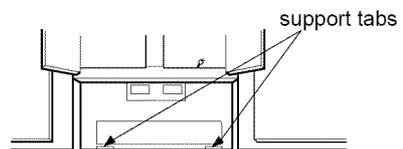
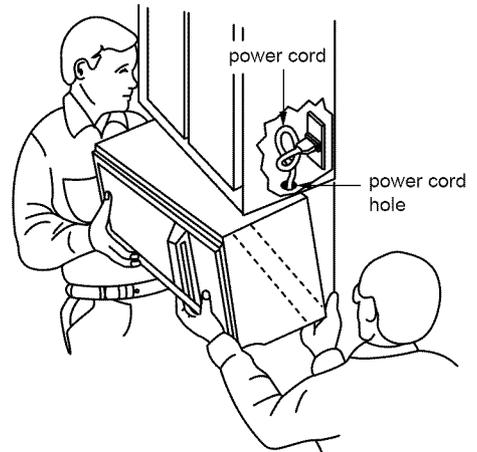

Figure 28
Figure 32
3. Place the mounting plate against the wall and match the screw holes. See Figure 28.
1. Carefully lift microwave oven and hang it on support tabs (See Figure 28) at the bottom of the mounting plate. Reaching through upper cabinet, thread power supply cord through the power supply cord hole in the bottom of the upper cabinet. See Figure 32.